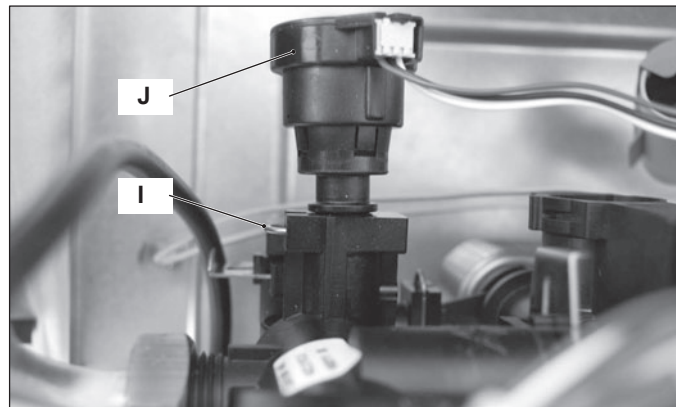

Figure 8.6
- 4 Remove the fixing spring I (Figure 8.6) and remove the primary circuit flow switch J.